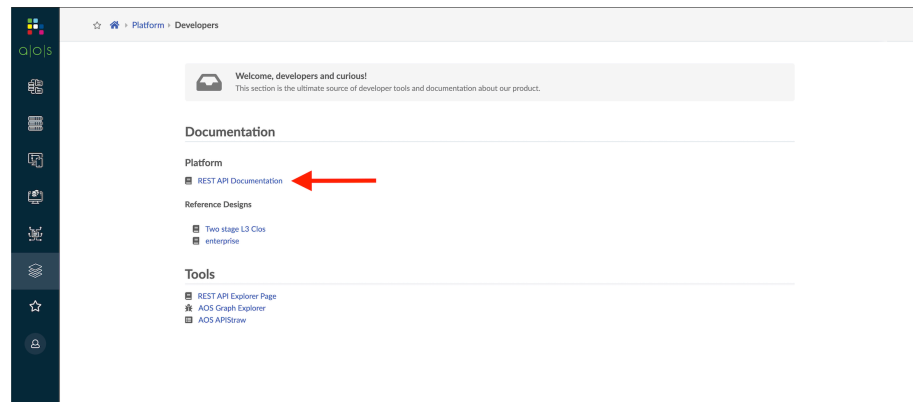

Figure 8.2 Accessing the REST API Documentation
Step 2: Select REST API Documentation. See Figure 8.2.